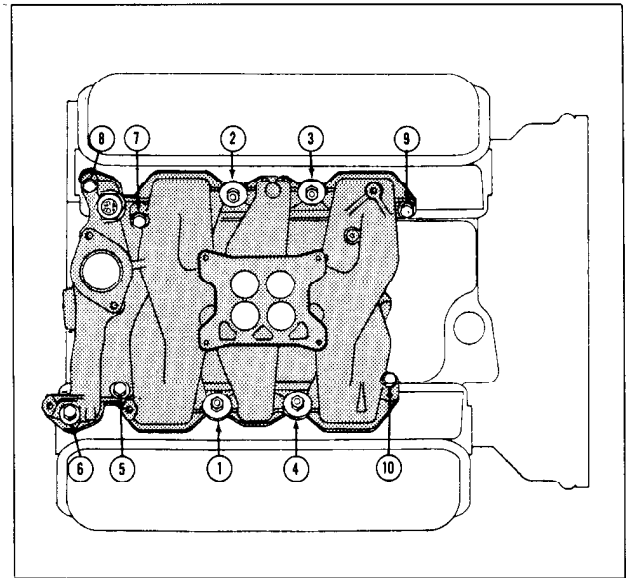

Fig. 8-2 Intake Manifold Torque Sequence
2. Dip threads of intake manifold bolts in C.P. No. 9 sealer (Nat. Machine Prod. Co.). Install manifold bolts and nuts and torque 22 to 34 ft-lbs. in sequence as shown in Fig. 8-2.